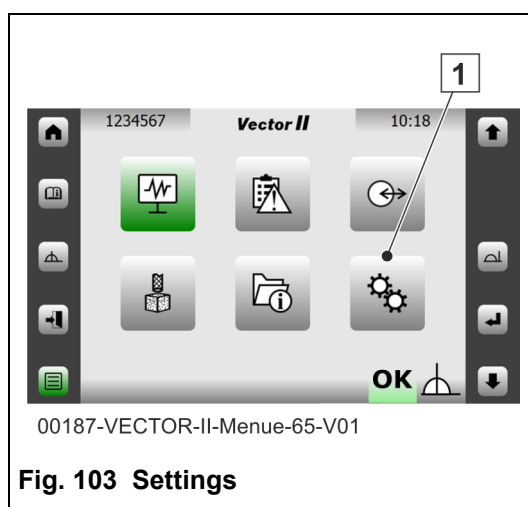

Fig. 103 Settings
1. Open the “Settings” menu (1) (**Fig. 103**).